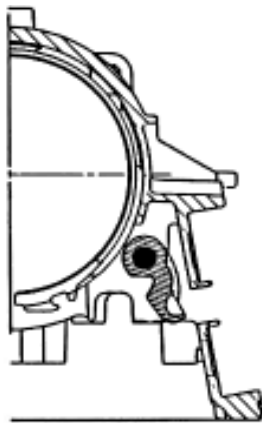

Figure 8.11 Rear servo bar
- d. Install the rear servo bar and pin shaft. Refer to Figure 8.11.